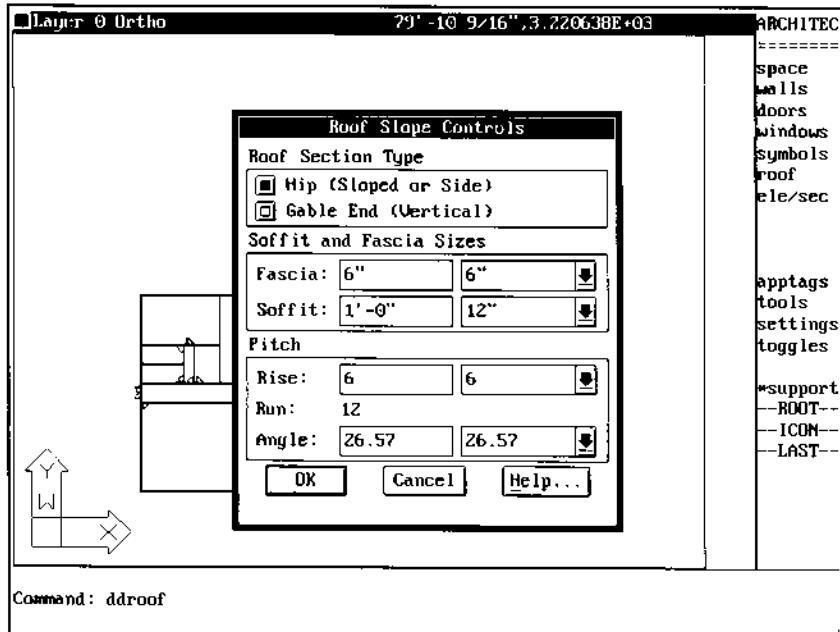

Figure 9.
7. Verify that Roof Section Type is toggled to Hip. Enter 8 in the Rise: edit box as shown in Figure 9, or select it from the popup list.